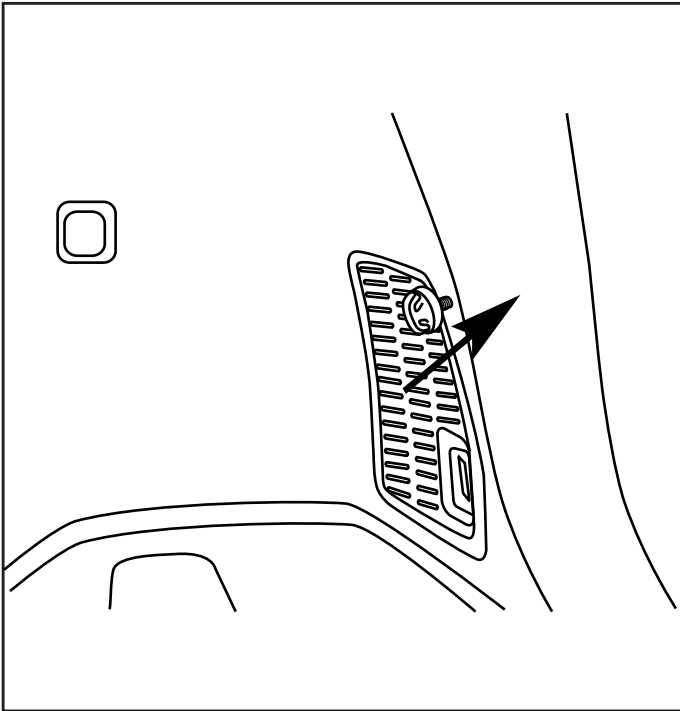

Fig. 16
16. Place Upper and Lower T-anchors with stud, through front hole opening (Fig. 16).